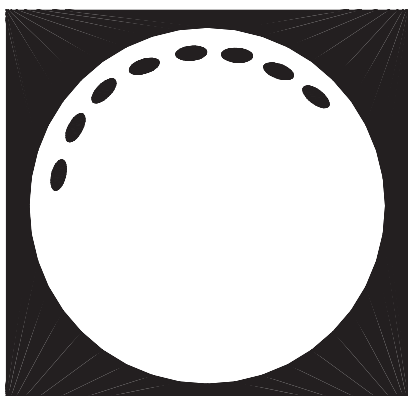

Fig B-9. A typical test result
- Fig B-9 shows 8 dots. This would indicate an exposure time of 0.08 sec for a 50 Hz full wave rectified generator.